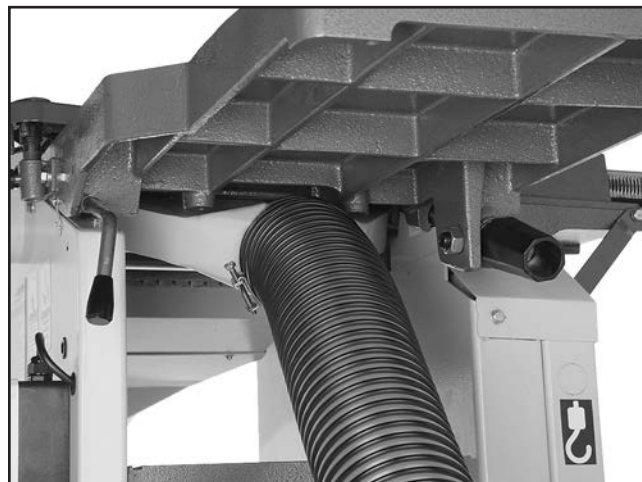
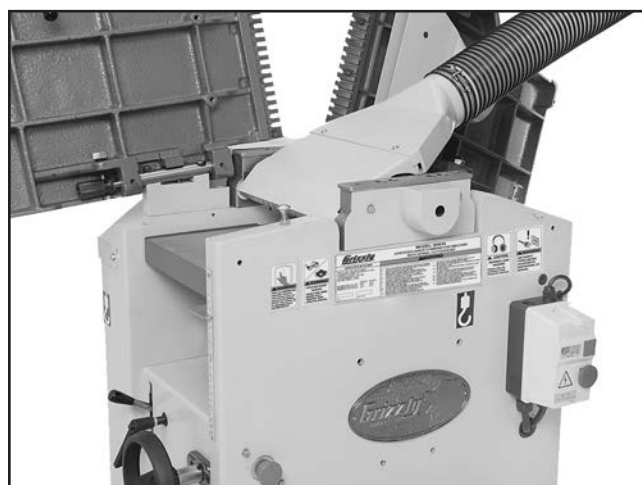

Figure 24. Example of dust hose attached to jointer dust port.
Figure 25. Example of dust hose attached to planer dust port.
1. Fit the 4" dust hose over the jointer dust port, (see **Figure 24**), or over the planer dust port (see **Figure 25**), depending upon operation mode, and secure in place with a hose clamp.